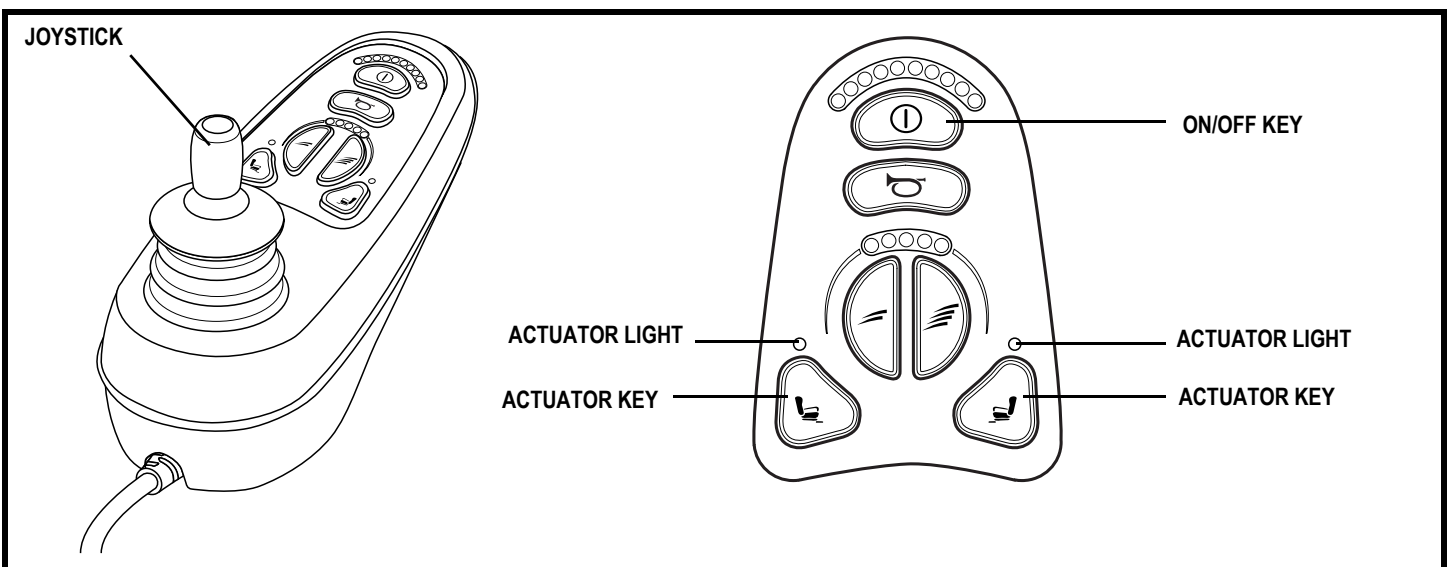

Figure 20. VR2 6-key Controller and Keypad
1. Push the on/off key to power on the chair and the controller. See figure 20.
2. Push the desired actuator key to select actuator mode. See figure 20.
5. Push the on/off key to return to drive mode. See figure 20.